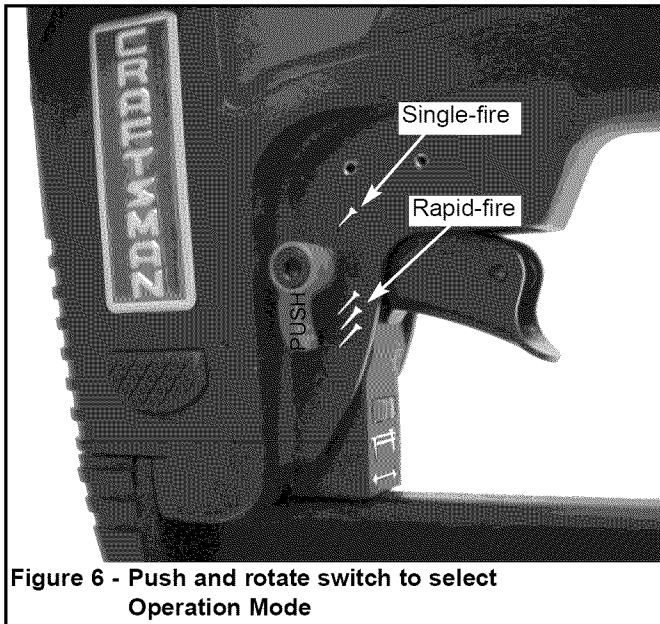

Figure 6 - Push and rotate switch to select Operation Mode
Refer to Figures 6, 7, 8 & 9 (pages 5 and 6).
- The tool is equipped with a rotating switch that can be set to rapid-fire or single-fire mode (see Figure 6). When the switch is set to single-fire mode, the tool will not drive a second fastener until the trigger is fully released and pulled again.